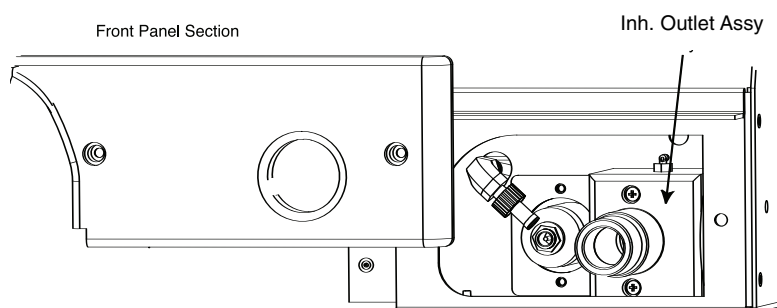

Figure 2-4 Inhalation Outlet Assembly
- 1 Access the Inhalation Outlet Assembly by removing the Lower Right Front Panel, see Figure 2-4 above.